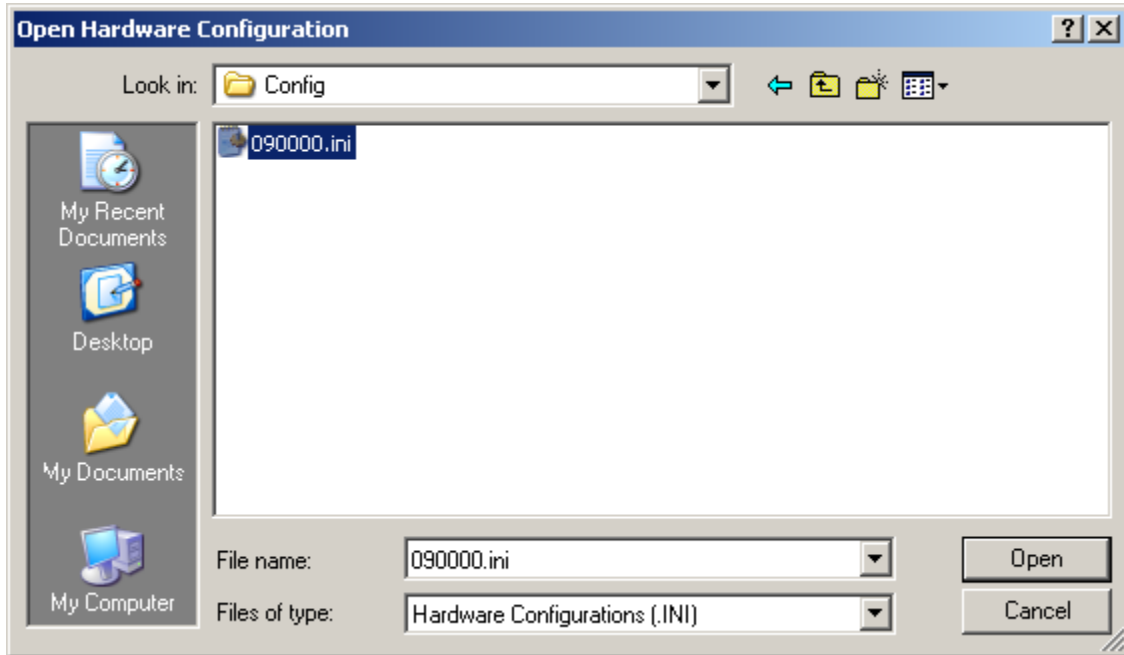

Figure 4 - Select Hardware Configuration
2. **Open Hardware Configuration** – Brings open the selection dialog shown in Figure 4 to select a Hardware Configuration. Selecting “Yes” to the prompt reading “Make this the default hardware configuration” will replace the current default with the most recently selected file.